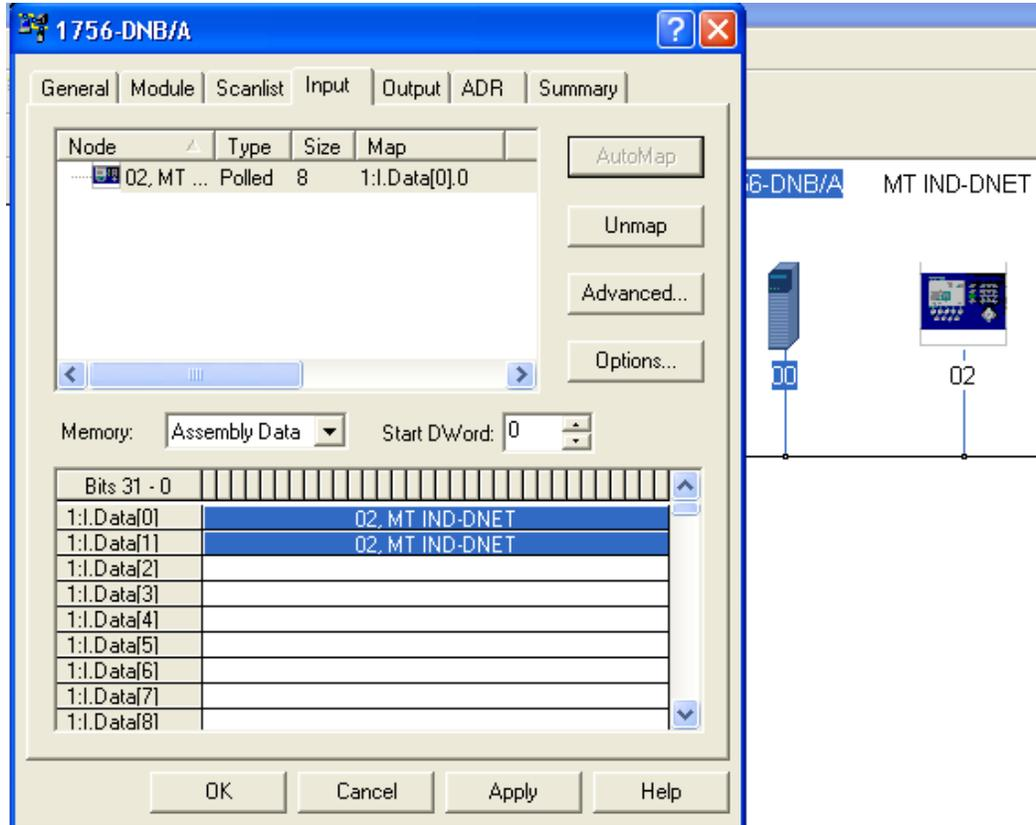
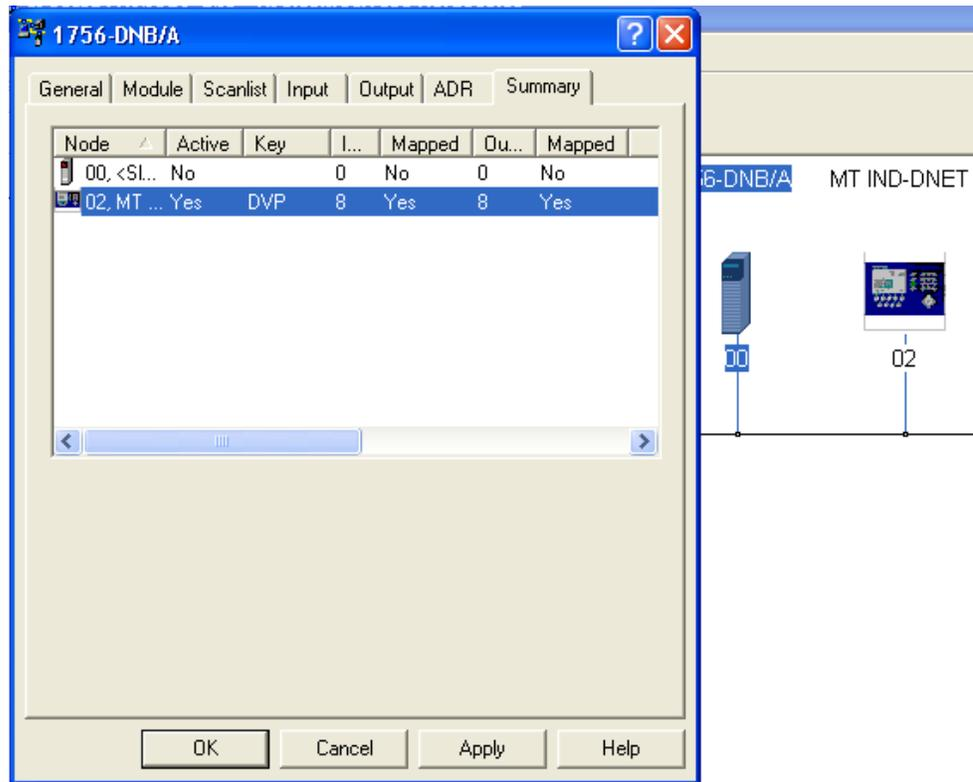

Figure 5-27: IND Terminal Mapping
Figure 5-28: Summary Tab
- Once the IND Terminal has been added to the scanlist, access the Properties dialog to verify its I/O mapping (Figure 5-27 and Figure 5-28) within the scanner card. Note that auto or manual mapping can be used. Consult the master's documentation for advance I/O mapping options. If manual mapping is used. Be sure to start with an unused section of memory for offset.